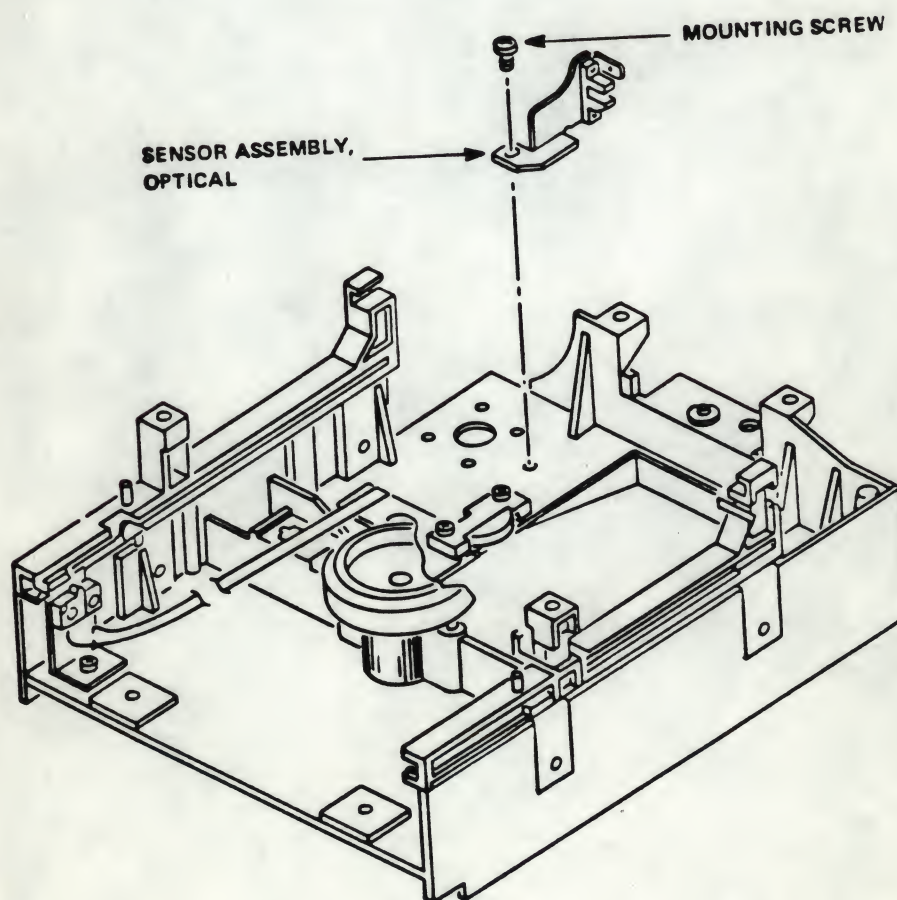

Figure 5-22
5.11.5 With a Phillips screwdriver, remove the mounting screw that attaches the Track 00 Sensor Assembly to the chassis (see Figure 5-22).
- 5.11.10** With a Phillips screwdriver, install and tighten the mounting screw that attaches the Track 00 Sensor Assembly to the bottom of the chassis (see Figure 5-22).